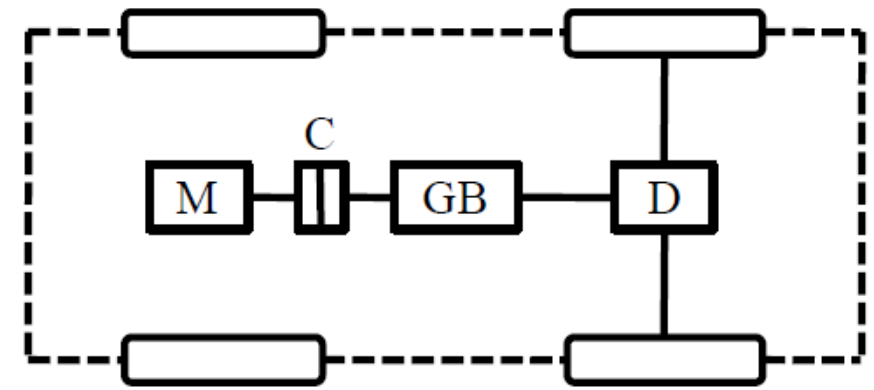

Figure 3a: EV configuration with clutch, gearbox and differential
1. 1st configuration: Figure 3a :